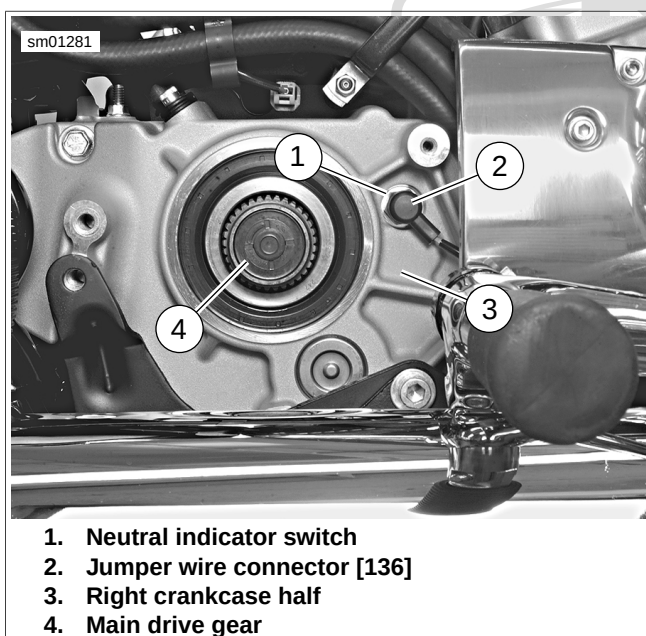

Figure 6-105. Neutral Indicator Switch Location: All Models (XL Shown)
See Figure 6-105. The neutral indicator switch (1) is threaded into the right crankcase half (3) immediately forward of the main drive gear (4). A short jumper wire assembly (2) connects the switch to the harness connector [136] under the engine crankcase.